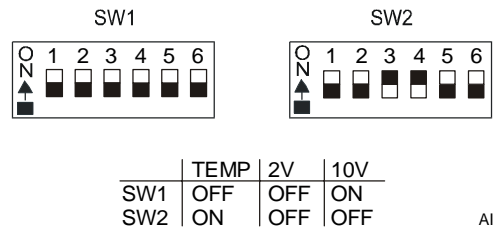

Figure 2: AI Switches
Configure **Analog Input (AI)** switches for resistance/temperature input, 0 to 2 VDC, or 0 to 10 VDC. Figure 2 shows the two banks of DIP switches to set the configuration.